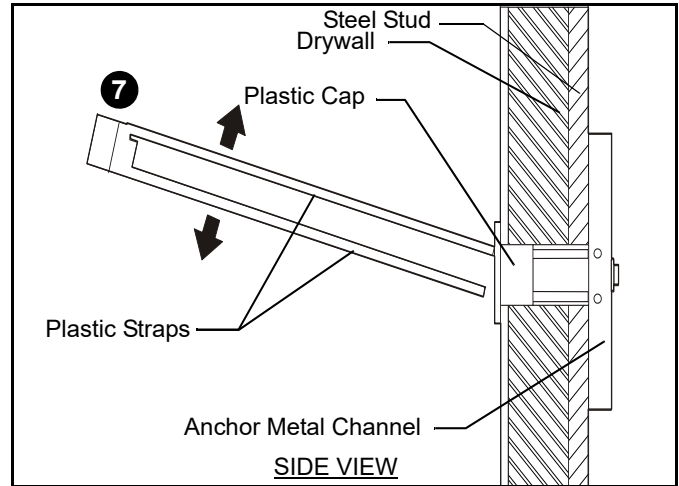

Figure 16
7. Snap off plastic straps on anchor at wall by pushing side to side, snapping off straps level with flange of plastic cap. (See Figure 16)